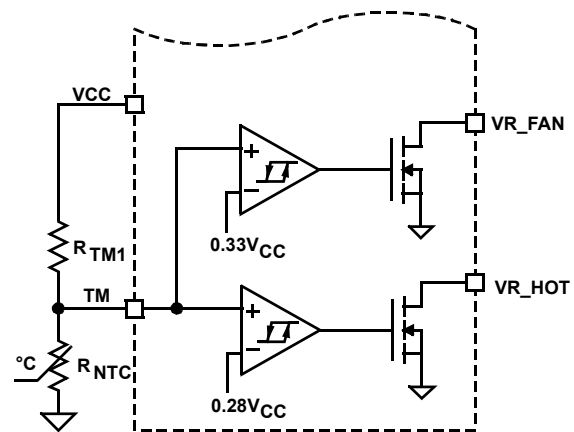
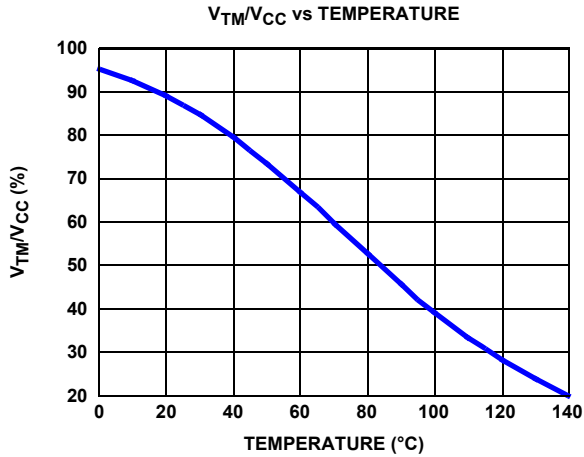

FIGURE 11. BLOCK DIAGRAM OF THERMAL MONITORING FUNCTION
FIGURE 12. THE RATIO OF TM VOLTAGE TO NTC TEMPERATURE WITH RECOMMENDED PARTS
The diagram of thermal monitoring function block is shown in Figure 11. One NTC resistor should be placed close to the power stage of the voltage regulator to sense the operational temperature, and one pull-up resistor is needed to form the voltage divider for the TM pin. As the temperature of the power stage increases, the resistance of the NTC will reduce, resulting in the reduced voltage at the TM pin. Figure 12 shows the TM voltage over the temperature for a typical design with a recommended 6.8kΩ NTC (P/N: NTHS0805N02N6801 from Vishay) and 1kΩ resistor R_{TM1} . We recommend using those resistors for the accurate temperature compensation.
Based on V_{CC} voltage, ISL6326 converts the TM pin voltage to a 6-bit TM digital signal for temperature compensation. With the non-linear A/D converter of ISL6326, the TM digital signal is linearly proportional to the NTC temperature. For accurate temperature compensation, the ratio of the TM voltage to the NTC temperature of the practical design should be similar to that in Figure 12.
1. Properly choose the voltage divider for the TM pin to match the TM voltage vs temperature curve with the recommended curve in Figure 12.